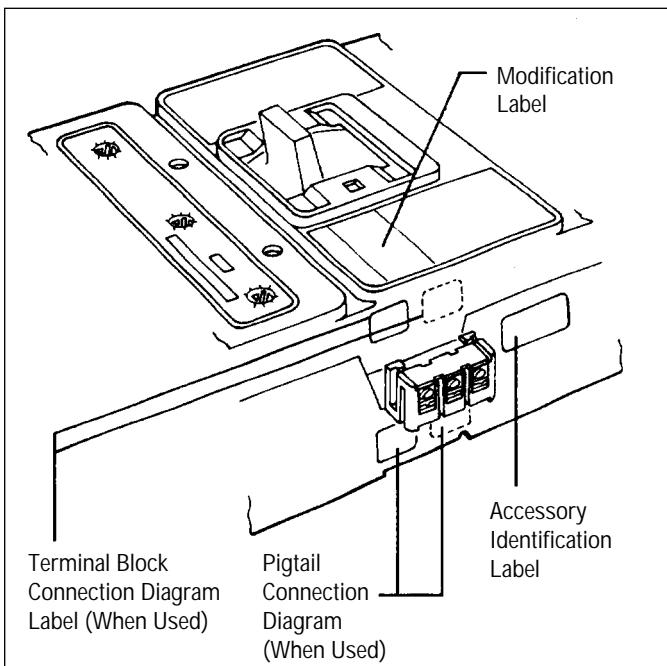

Figure 2-7 Preferred Mounting Locations for Accessory Nameplate Labels
- 2-13. Place accessory labels (supplied with kit) on circuit breaker (Figure 2-7).
- 2-17. Connect accessory leads as required (see Figure 2-7).